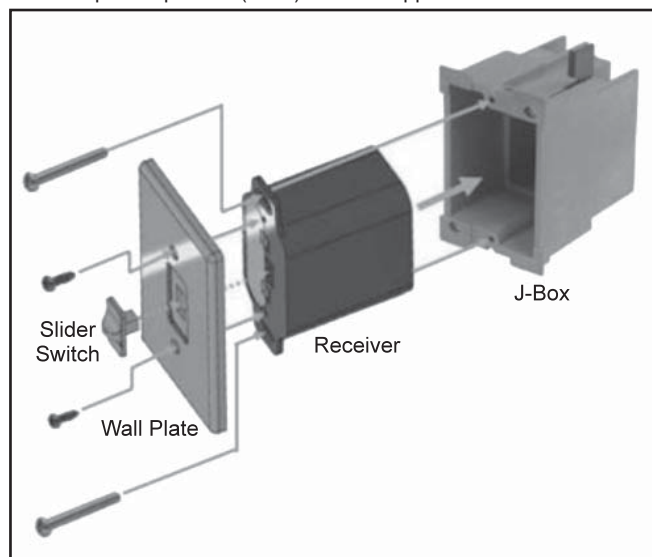

Figure 107: Wall Mounting the Receiver.
The Proflame GTMFS has six (6) flame levels. With the system on, and the flame level at the maximum in the appliance, pressing the Down Arrow Key once will reduce the flame height by one step until the flame is turned off. The Up Arrow Key will increase the flame height each time it is pressed. If the Up Arrow Key is pressed while the system is on but the flame is off, the flame will come on in the high position (refer to Figure 107). A single “beep” will confirm reception of the command.